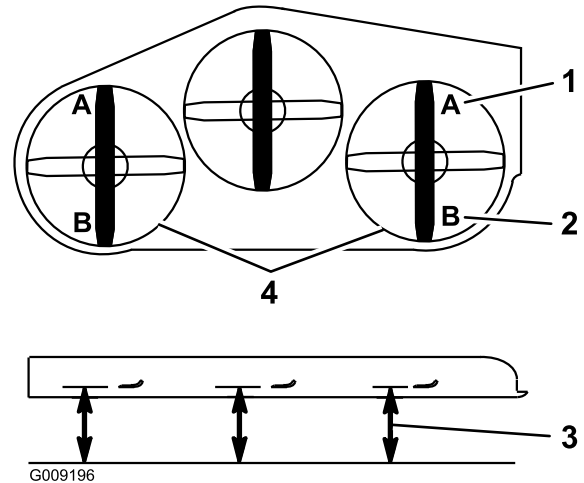

Figure 89
9. On both sides of the deck, measure from the level surface to the front tip of the blade (Position A) as shown in Figure 89.
15. On both sides of the deck, measure from the level surface to the back tip of the blade (position B) as shown in Figure 89.